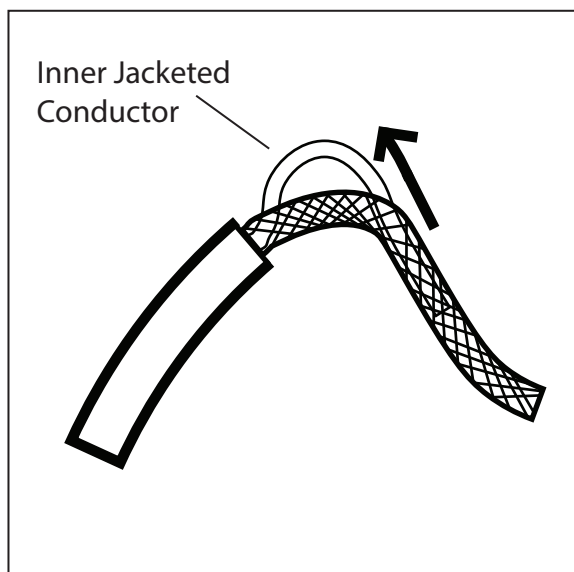

Fig. 3
4. Bend the cord to create an opening through the bunched-up portion of outer braided conductor, then pull out the inner jacketed conductor (Fig. 3)